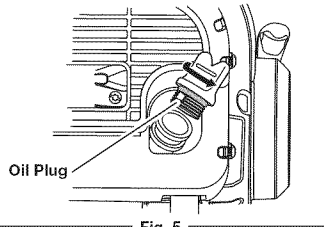

Fig. 5
2. With the unit on a flat level surface, remove the oil plug (Fig. 5).